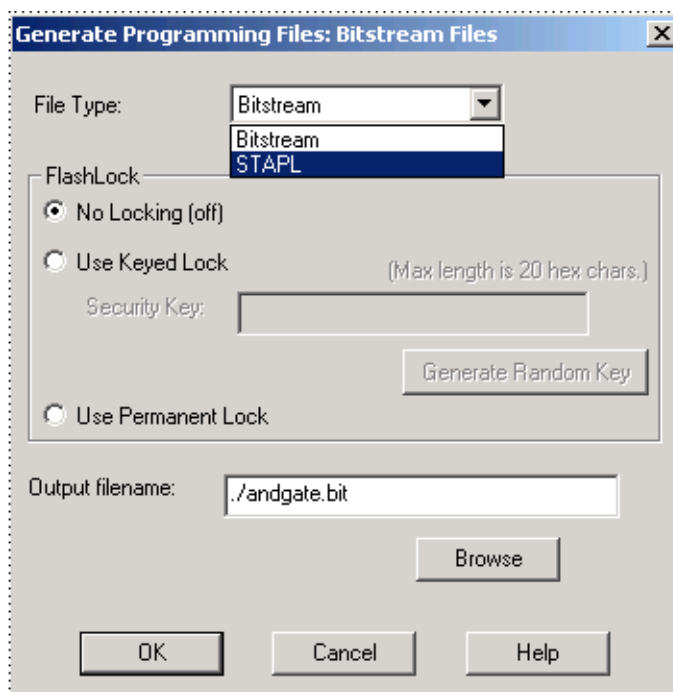

Figure 5-24. Bitstream File Dialog Box
2. Double-click the Bitstream icon in Designer, or select *Export -> Bitstream Files* from the File menu. This opens the Generate Programming Files: Bitstream Files dialog box, as shown in Figure 5-24.